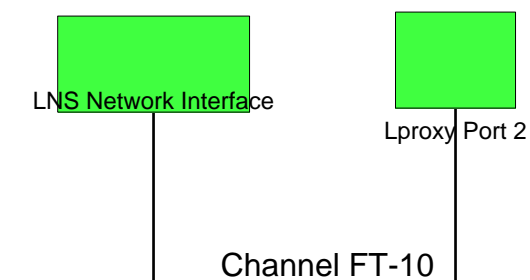

Figure 75: The L-Proxy has been added to the drawing.
- Finally, you should get the device added to your drawing as depicted in Figure 75.